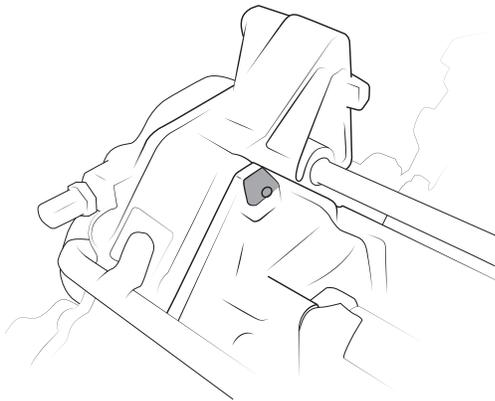

Figure 15
5. Remove the intake manifold on a 6.4L (refer to the factory service manual). The engine block will need to be modified as shown in Figure 15. Verify by “dry-fitting” the AEV intake manifold to check for clearance before final installation. Once clearance has been verified, change the water pump (sourced from 2011 and newer engines) and install AEV intake manifold.
- c. There are ten (10) seals on the bottom of the manifold, one (1) between the intake manifold actuator and intake, and one (1) between the throttle body and intake. Be sure all seals are properly installed.